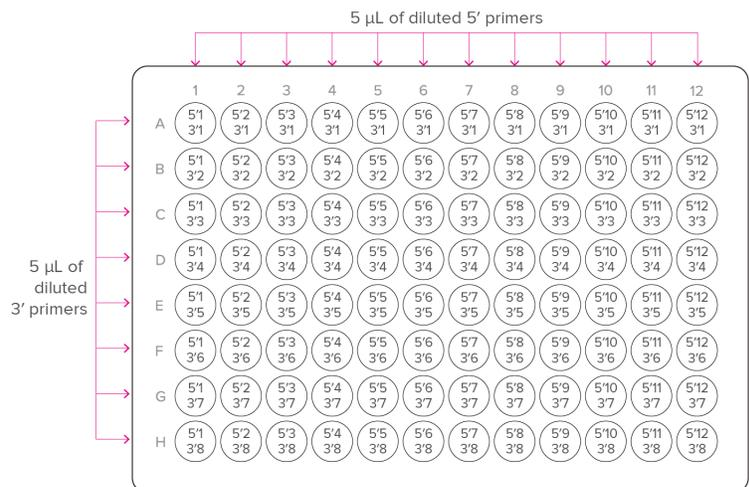

Figure 1. Diluted primer mix plate.
- 3 Transfer 5 µL of each diluted primer to the appropriate well of a new 96-well PCR plate, according to the plate map in Figure 1.